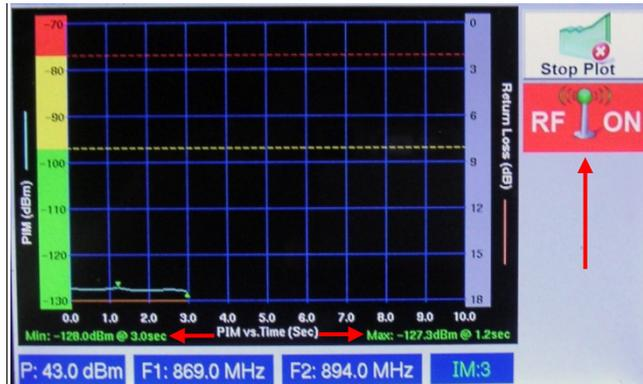
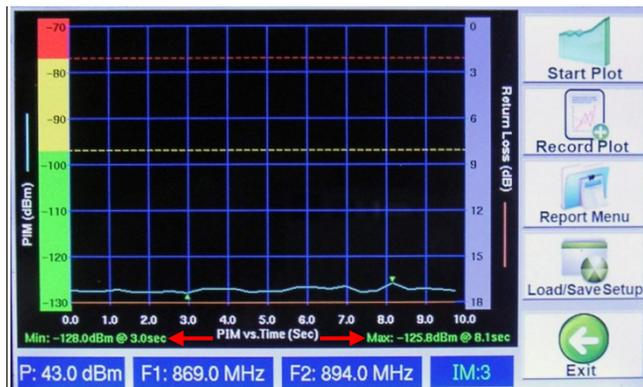
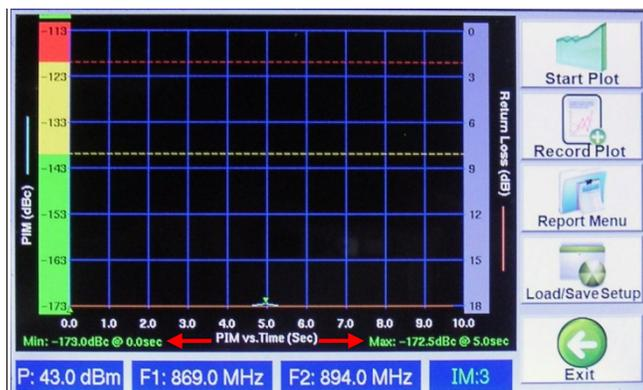

Figure 52 - Partial *PIM & Return Loss vs. Time* Plot on the *PIM vs. Time* Window Showing *Stop Plot* and *RF ON*
Figure 53 - *PIM & Return Loss vs. Time* Plot on the *PIM vs. Time* Window
Figure 54 - *PIM & Return Loss vs. Time* Plot (in dBc) on the *PIM vs. Time* Window
*Note that the “Start Plot” icon changes to read “Stop Plot” when the test is initiated. Also note that while the PIM vs. time test is being performed an “RF ON” icon with a little Antenna appears in the location where the Record Plot icon normally appears. Once the “PIM vs. Time” test is initiated, the  measurement plot can be interrupted at any time by pressing the “Stop Plot”  icon in **Figure 52**. The PIM readings are indicated by a “blue” line, while the Return Loss (R_L) readings are indicated by a “red” connecting line. As stated previously note the “Marginal” and “Failing” PIM values are indicated by yellow and red dashed lines across the PIM vs. Time graph. **MIN & MAX PIM** values are also listed at the bottom of the PIM vs. Time graph both during test, and at completion of test. **MIN & MAX PIM** readings will be in either **dBm** or **dBc** depending on the unit’s chosen for this test. See **figure 53** for a view of the **PIM & Return Loss vs. Time** Plot on the **PIM vs. Time** window. See **figure 54** for a screen capture of the recently added dBc unit functionality in the PIM vs. Time test.*